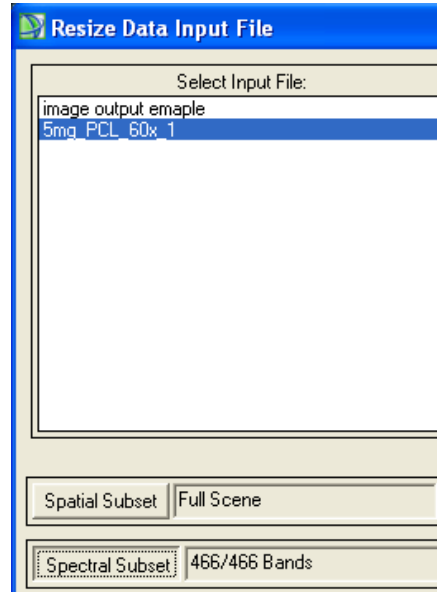

Figure 55. Resize Data Input File window
- d. Click the Spectral Subset radio button (see Figure 55)